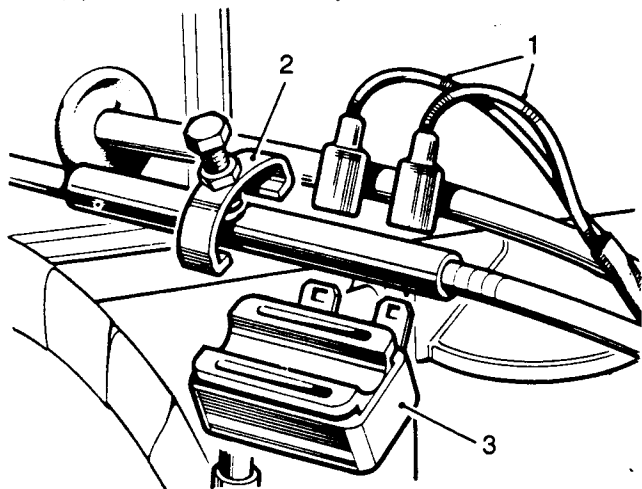

Fig O5.20.
- (2) Refer to Fig O5.20. Disconnect the leads (1) from the switch.
- (3) Remove the clip (2) securing the switch to the choke cable.
- (4) Remove the switch.